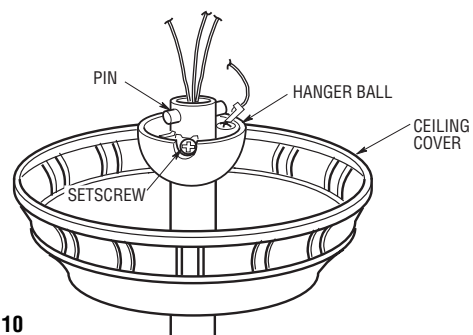

Figure 10
15. Reinstall the hanger ball (Figure 10) on the downrod as follows. Route the three 80" motor leads through the hanger ball. Position the pin through the two holes in the downrod and align the hanger ball so the pin is captured in the groove in the top of the hanger ball. Pull the hanger ball up tight against the pin and securely tighten the setscrew in the hanger ball. A loose setscrew could create fan wobble.